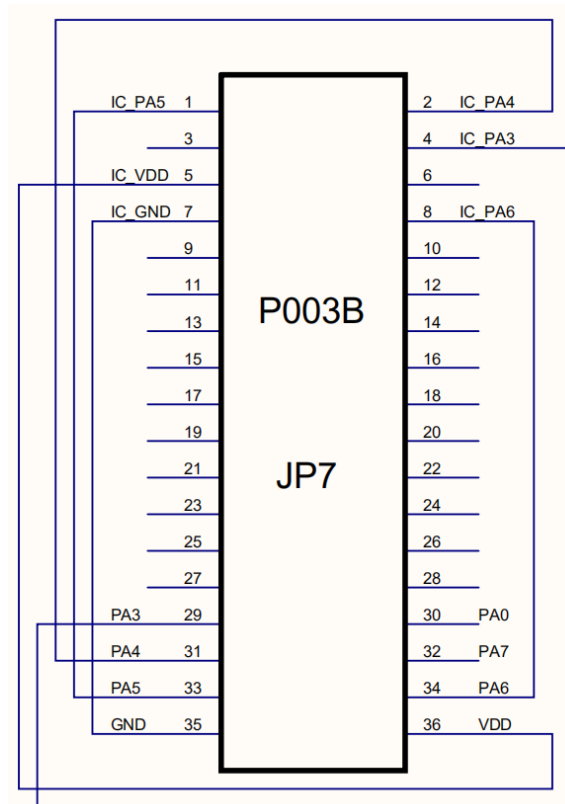

Fig. 29: schematic diagram of PMS152E-S08B Jumper7 when using P003B
2. As shown in figure 29, it is the Jumper7 connection method.